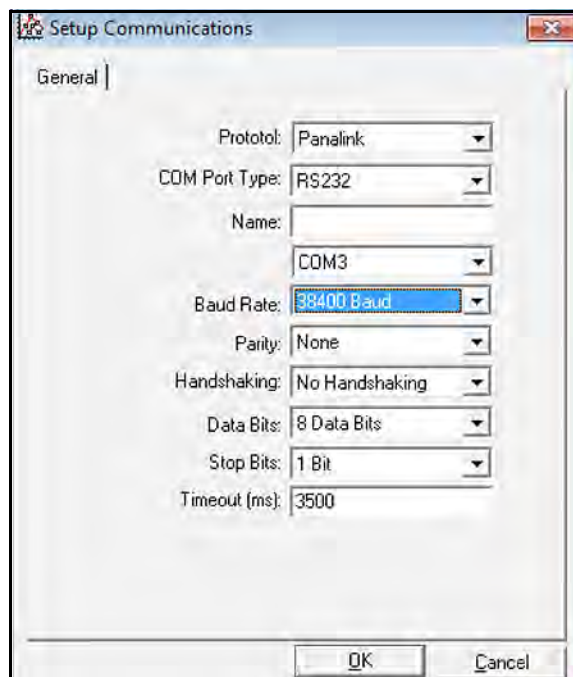

Figure 3: Setup Communications
3. Select *New Communications Port* to open a window similar to *Figure 3* below.